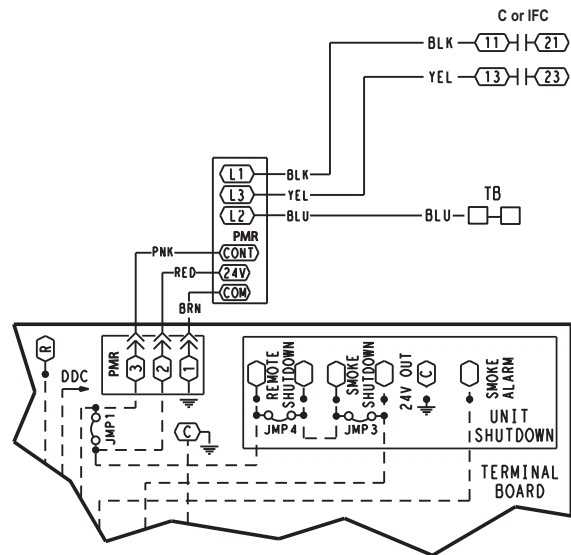

Fig. 7 - Wiring Diagram
On the compressor contactor (C) or (C1) or on the Indoor Fan Contactor (IFC) on units with crankcase heater, connect the black wire to terminal “11” and the yellow wire to terminal “13.” Connect the blue wire to the input power terminal board (TB). (See Fig. 7.)